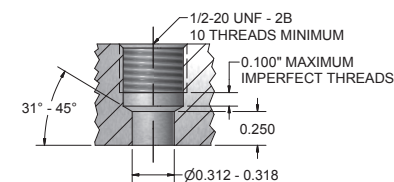

Figure 2
4. Inspect mounting hole to ensure there is no debris or deterioration of the sealing surface and threads. See Figure 2 below. Clean and repair as needed.